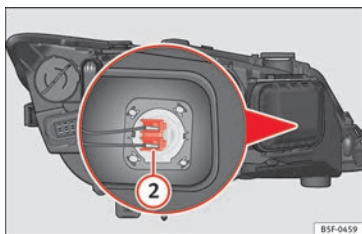

Fig. 109 Main beam headlight bulb.
- Slide connector » **Fig. 109** (2) to the left or right and pull.